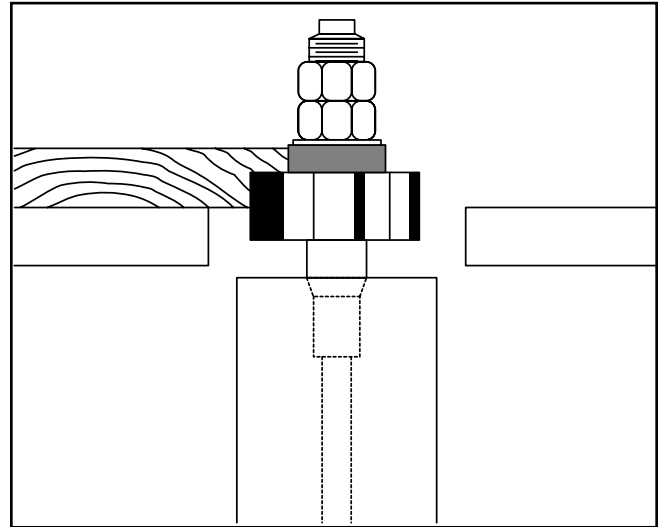

Figure 22. Cutting with rub collar above cutter.
2. **Above the cutter:** When the rub collar is used above the cutter, the cut cannot be seen. See **Figure 22**. This offers some advantage—the stock is not affected by slight variations in thickness and accidental lifting will not damage the workpiece. Simply correct any change in height by repeating the operation.